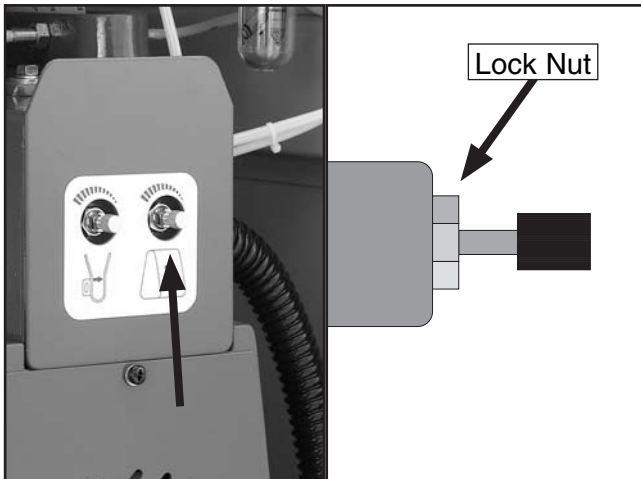

Figure 30. Speed control adjustment knob.
1. Loosen the lock nut on the speed control adjustment knob (**Figure 30**).